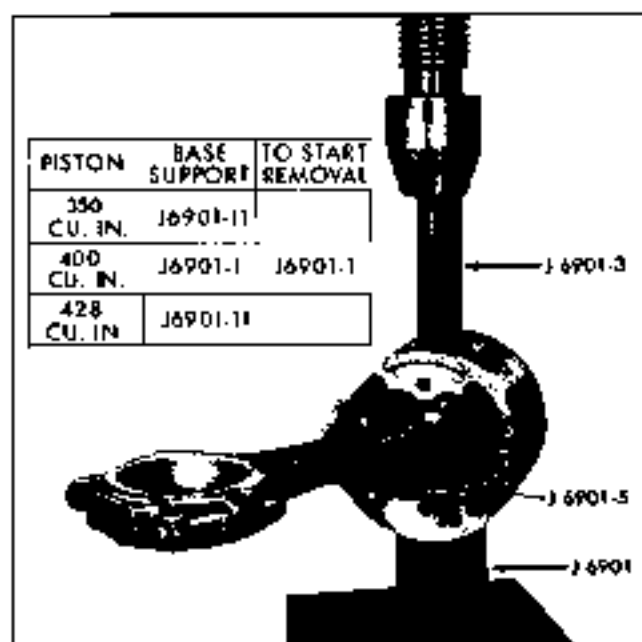

Fig. 6-116 Removing Piston Pin
2. Using a suitable arbor press, place the spring and plunger into the bore of the base support and position on an arbor press with the pilot plunger indexed in the bottom of piston pin bore. See insert in Fig. 6-116 for correct base support and pilot plunger for the type pistons being serviced.
3. Using the pilot plunger (or plate) indicated in Fig. 6-116, the pin may be pressed out far enough to index with the bore in the base.